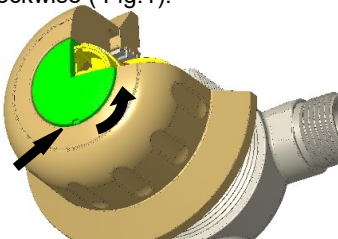

Fig .1
Step 1: To open cap cover , use a pointed object (pen tip, toothpick head...)put at trench of cap cover and rotate counter clockwise (Fig.1).